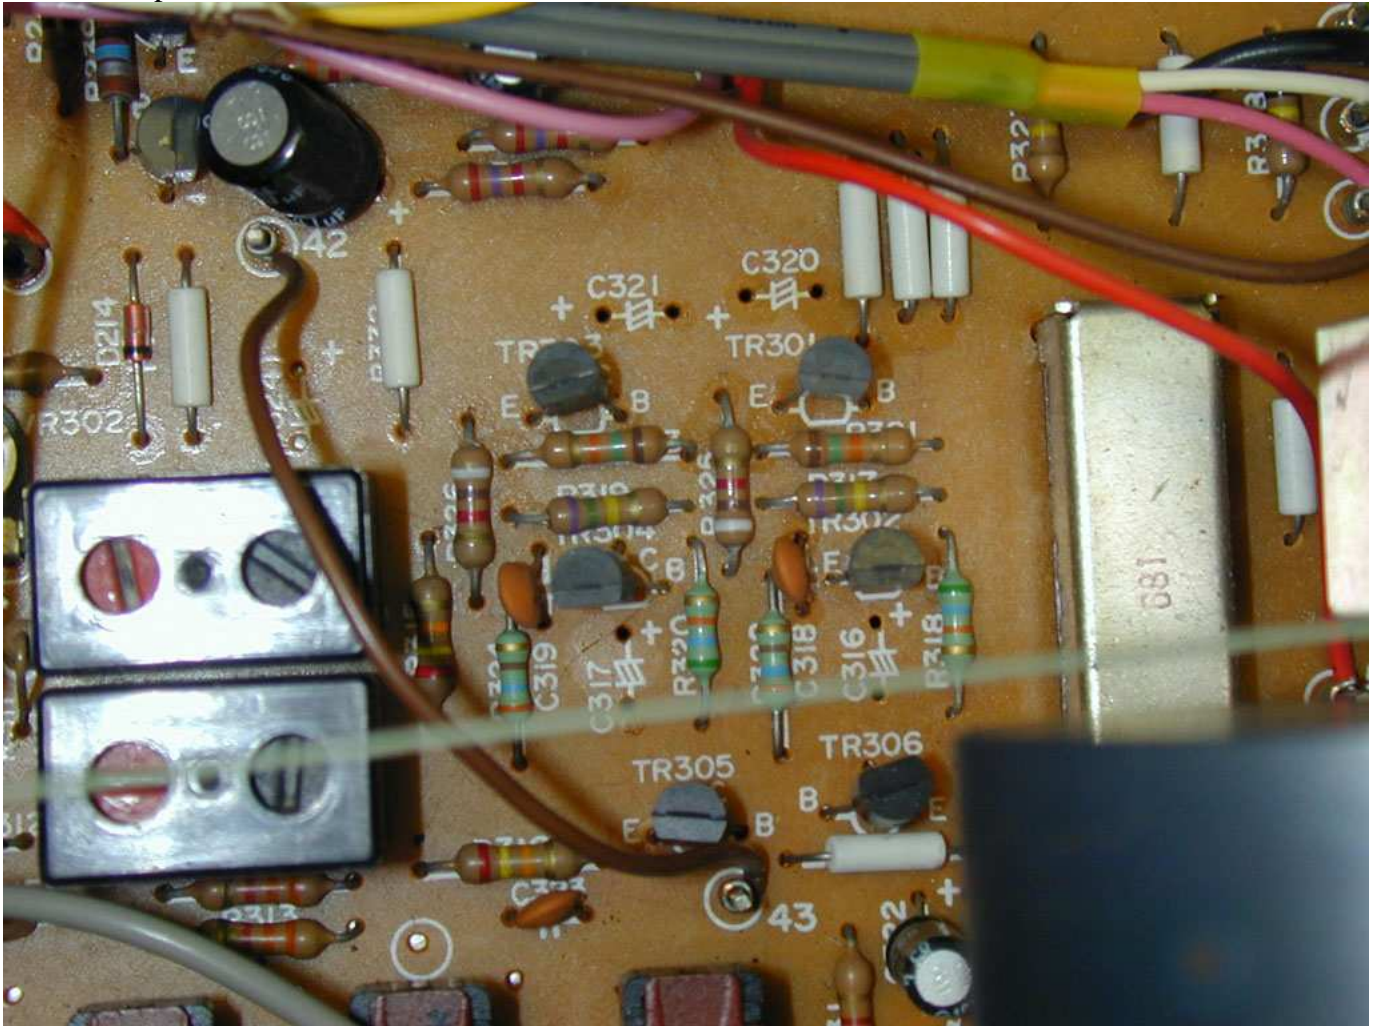

Figure 8, Topside location of C316, C317, C320 and C321
2. These capacitors can be located just to the rear of the tuning flywheel and to the left of it while looking from the front of the tuner. Figure 8 shows the topside location of these 4 capacitors. The white silkscreen nomenclature will also indicate the accurate location of these 4 components.